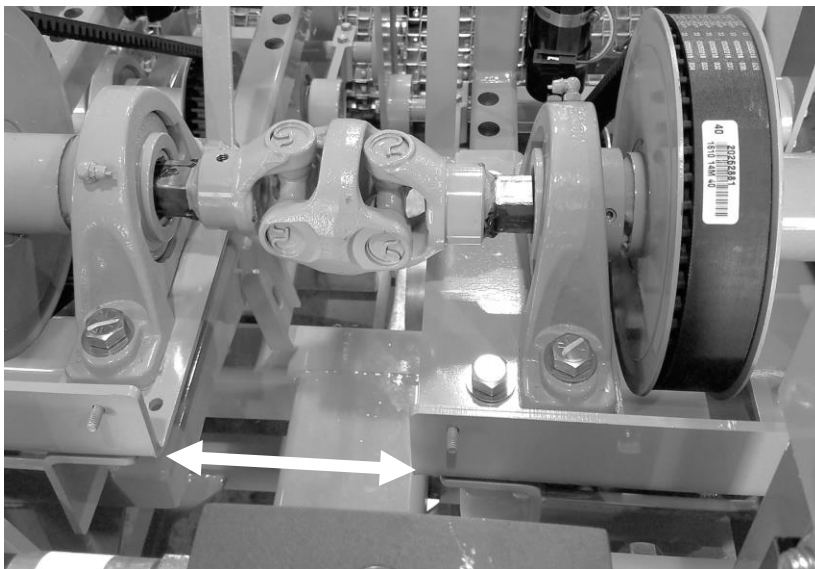
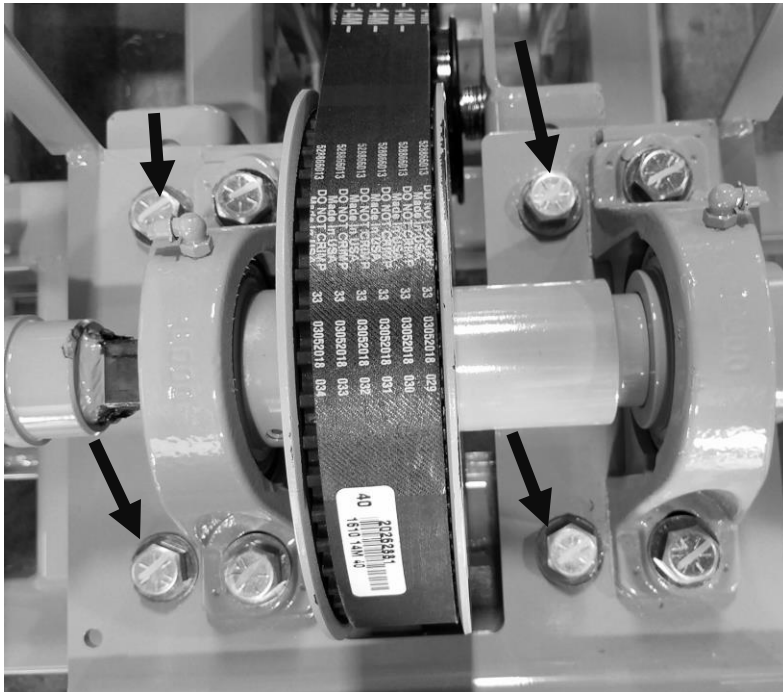

Figure 4—The left and right cutter head top plates must be
Figure 5—Loosen the fasteners shown to align the left top Plate with the right top plate.
4. Prior to applying tension to the left drive belt, make certain that the top plate on the left head is aligned with the top plate on the right head. See **Figure 4**. Make sure the top plate, bearings and shaft are positioned squarely on the head frame.
5. If the top plate on the left head is not aligned with the top plate on the right head, loosen the four fasteners (**Figure 5**) that secure the top plate to the head frame. Slide the top plate in its slots to align the top plates (**Figure 4**).
6. After aligning the left top plate with the right top plate, securely tighten the fasteners (**Figure 5**).